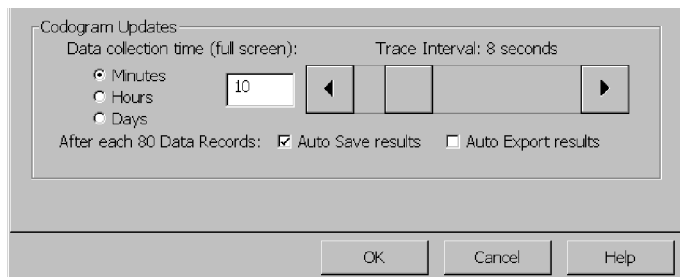

Figure 3-58: Meter tab of the setup window
3. To automatically save or export after you've taken 80 records, tap the check box next to **Auto Save** or **Auto Export**. See Figure 3-58.